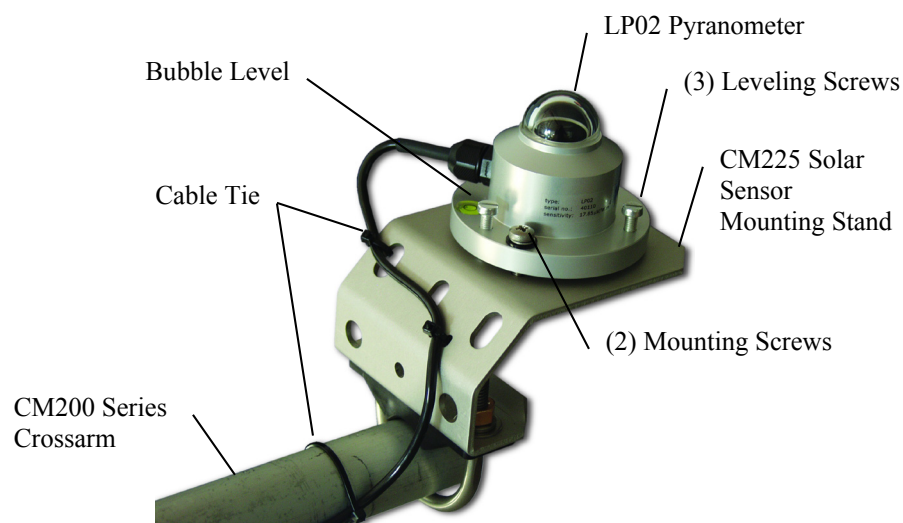

FIGURE 4-5. LP02 Pyranometer Attached to CM225 Solar Sensor Mounting Stand
3. Place the mounting screws in the mounting holes and slightly tighten them. The leveling screws should lightly touch the mounting plate (see FIGURE 4-5).
4. Starting with the leveling screw nearest the bubble level, turn the leveling screws to bring the bubble of the bubble level within the ring (see FIGURE 4-5).
7. Use cable ties to secure the cable to CM225 bracket and to the vertical pipe or crossarm and tripod/tower (see FIGURE 4-5).